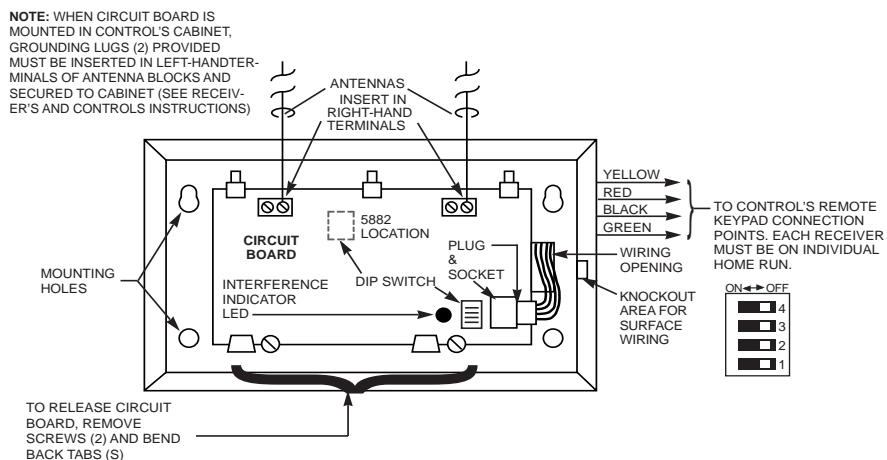

Figure 4: 4281 Wireless Receiver Showing DIP Switch Setting of "0."
- With the antennas in the upright position, make sure all DIP switches are pushed to the right (OFF – this equals address 0), as shown in Figure 4.